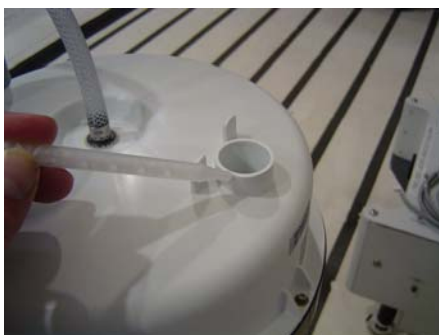

Figure 3.
6. Apply a bead of 3M Scotch-Weld DP-8005 adhesive to the outside of the manifold port. Apply adhesive near the top edge; ensure adhesive does not get on top surface of port, as shown in Figure 3.